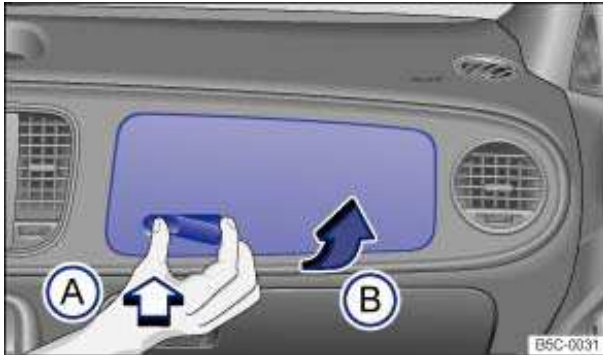

Fig. 85 On the passenger side: Opening the upper glove compartment.
- To *open*, press on the depression in the opening handle ⇒ fig. 85 (arrow (A)). Then lift the glove compartment lid upward using the handle (arrow (B)).